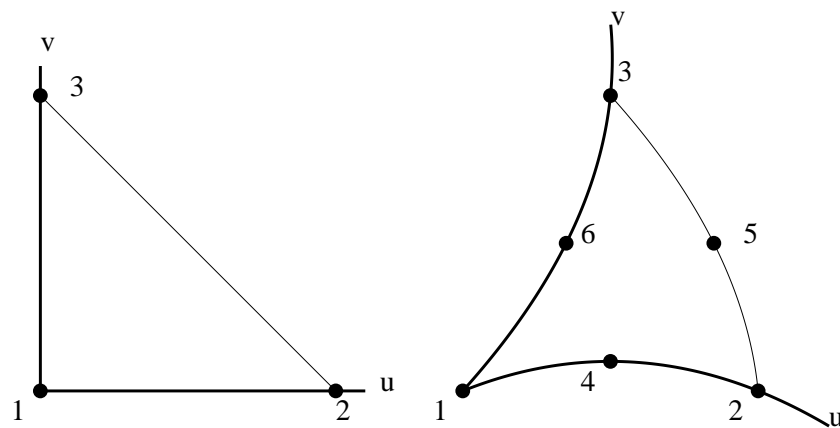

Figure I.1: The 3 (303) and 6 (306) node triangular elements.
- linear (element type code 202) and quadratic (203) 1D elements.
- linear (element type code 303) and quadratic (306) triangles (3 and 6 nodal points, Figure I.1),